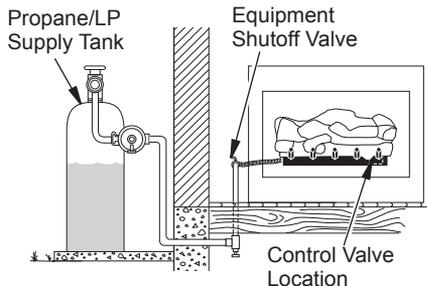
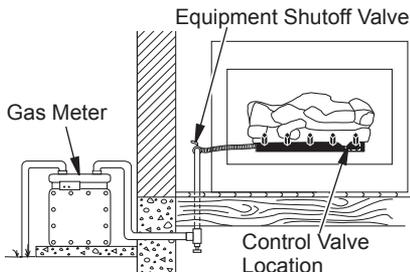

Figure 16 - Checking Gas Joints (Propane/LP Only)
Figure 17 - Checking Gas Joints (Natural Gas Only)
3. Check all joints from gas meter to equipment shutoff valve for natural gas or propane/LP supply to equipment shutoff valve for propane/LP (see Figure 16 or Figure 17, page 16). Apply noncorrosive leak detection fluid to all joints. Bubbles forming show a leak.
4. Check all joints from gas meter to equipment shutoff valve for natural gas or propane/LP supply to equipment shutoff valve for propane/LP (see Figure 16, page 15 or Figure 17, page 16). Apply noncorrosive leak detection fluid to all joints. Bubbles forming show a leak.